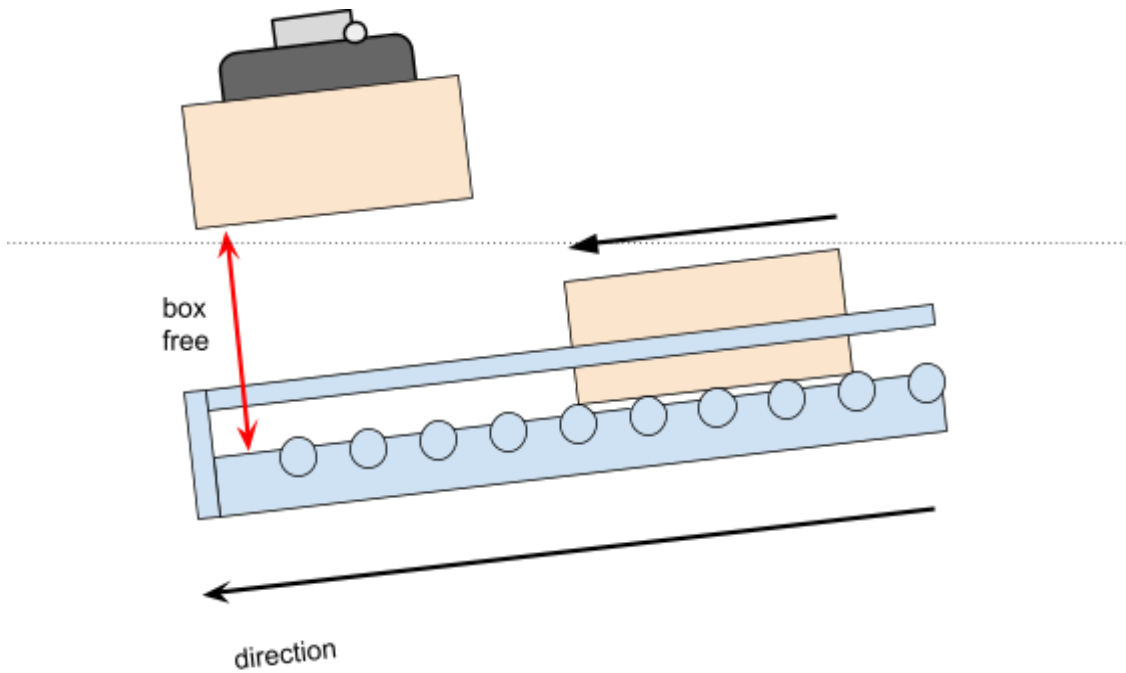

Figure 72: Choose a box free distance that is big enough to move the box above the others.
- Choose *box_free* high enough to move the box freely above the next boxes, as shown on **figure 72**.
- Choose "box free" high enough to move the box freely above the next boxes (**figure 72**).